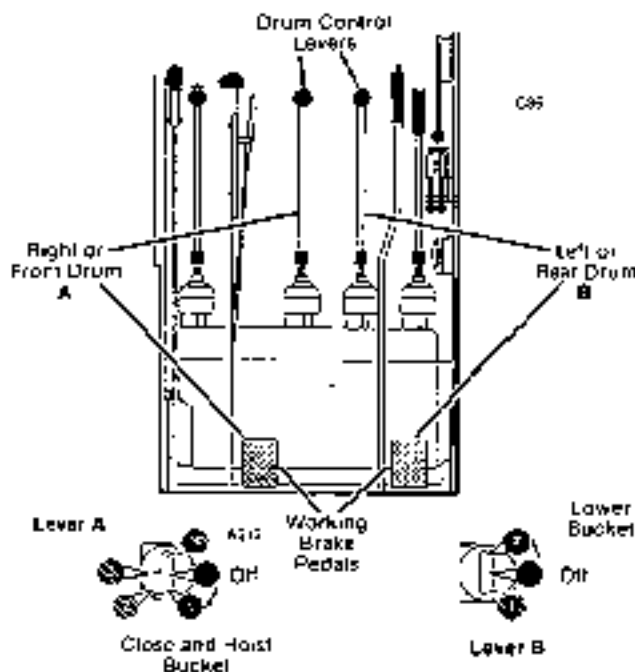

Figure 12 Drum Controls — Clamshell with AUTO TAKE-UP
Clamshell with Auto Take-Up (Figure 12)
9. With the bucket open and in the digging area, pull lever (A) back to Position 1, Figure 12 and release both brakes (A and B).
14. As soon as the bucket is empty, push lever (B) all the way forward to position (2, Figure 12) and slowly release brake (B) to lower the bucket. Apply brake (A) to keep slack out of the closing line while lowering. Apply brake (B) to slow the lowering speed, as required.
16. When the bucket is in the digging area, fully release both brakes (A and B), pull lever (B) to OFF, and pull lever (A) back to Position 1, Figure 12 to repeat cycle.